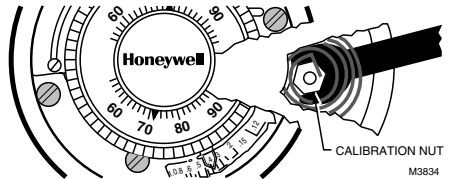

Fig. 5. Recalibration procedure.
2. Slip part no. 104994, the Calibration Wrench, onto the hex nut, see Fig. 5, under the bimetal coil. Holding the dial firmly, turn the hex nut clockwise until the mercury breaks contact.